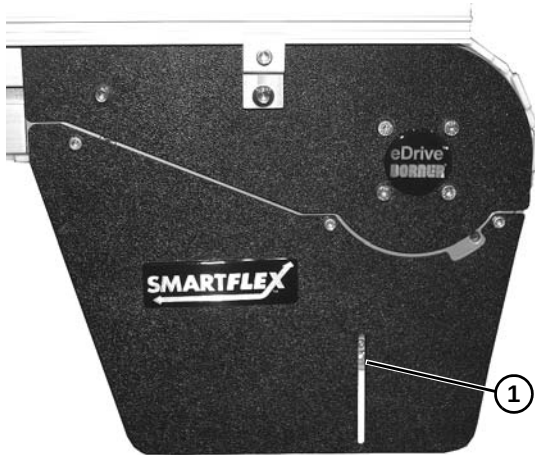

Figure 53
Before inserting belt rod to connect belt ends, be certain that the slack on belt is showing in slotted area (**Figure 53, item 1**) on convey or drive end.